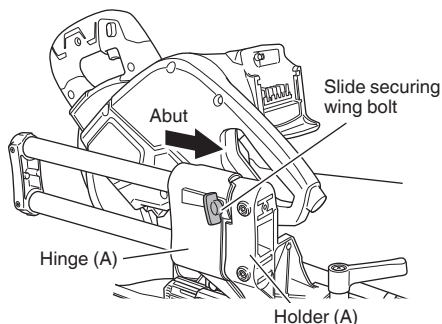

Fig. 62
At the position where hinge (A) abuts with holder (A), tighten the slide fixing wing bolt to fix the head. (Fig. 62)